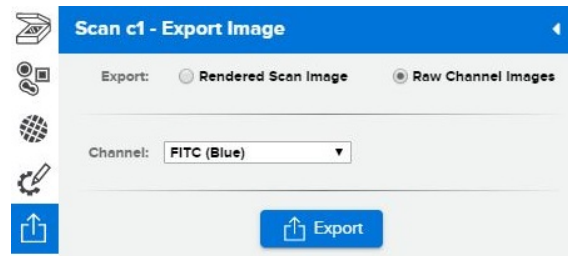

Figure 46: Export image menu - raw tiff
- Choose **RawChannel Images** (see Figure 46) to export single-channel, high-resolution images. This exports the raw, undoctored tiff file and may be several GB in size.